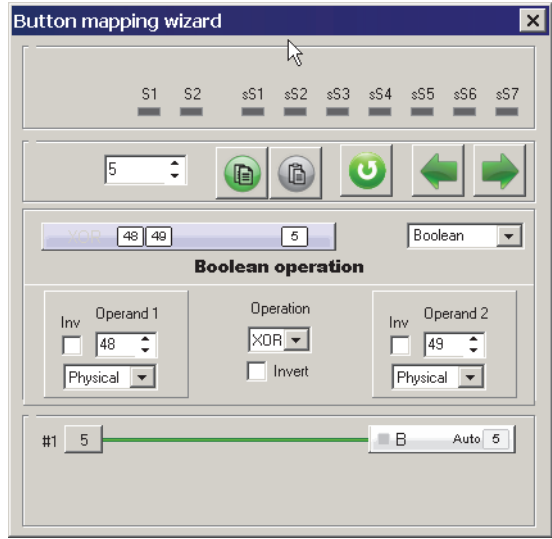

Fig. 4.57.
**Button mapping wizard** dialog for Boolean function is shown on Fig. 4.57.